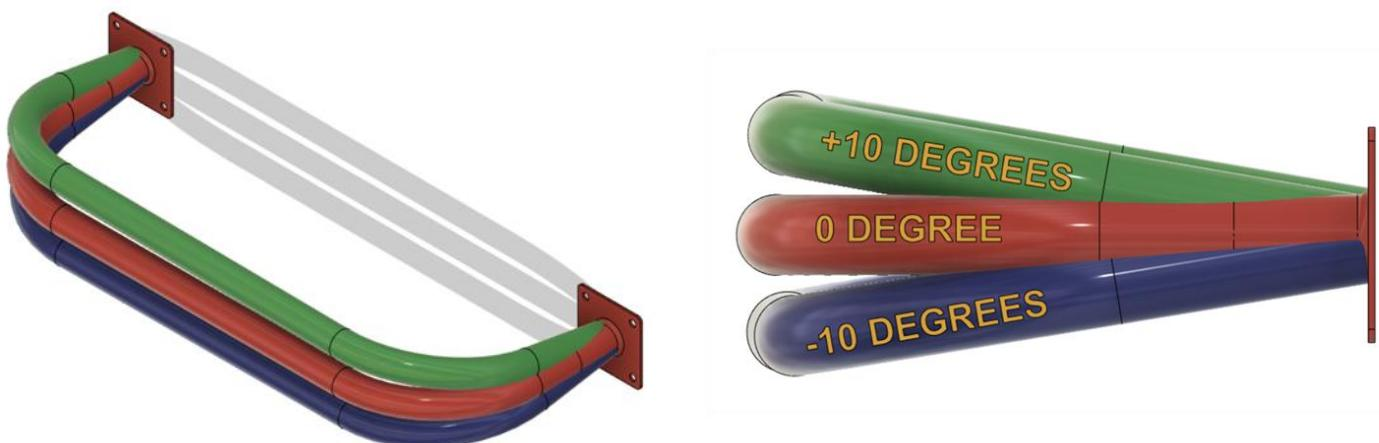

Figure 14
G. Bumper must be mounted a maximum of  $\pm 10$  degrees from 0 degree (horizontal). Refer to Figure 14